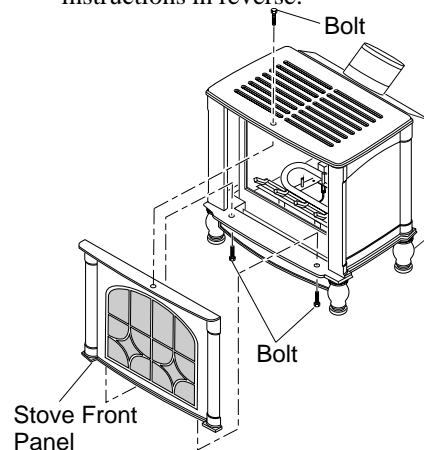

Figure 49 - Removing Front Panel from Stove
1. Remove 2 bolts from bottom of stove and one from the top of stove to remove front panel (see Figure 49).